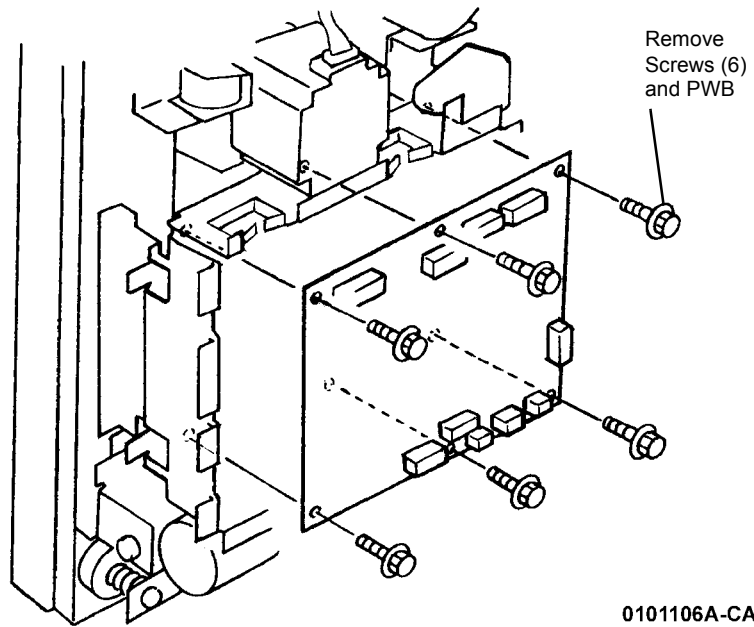

Figure 3 Removing Finisher PWB
4. Remove the Finisher PWB (Figure 3).